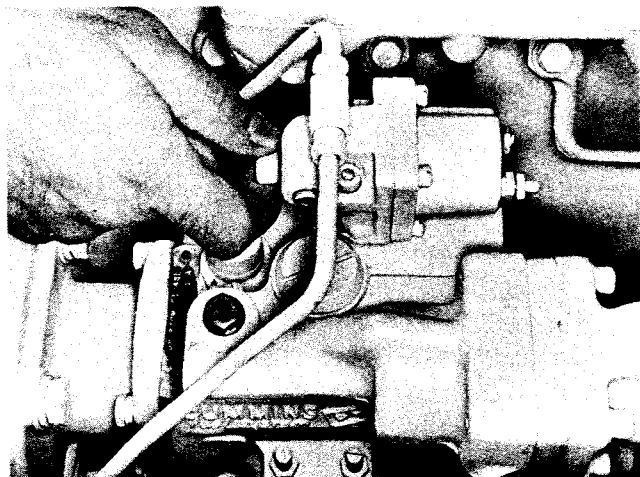

Fig. 1-9, (V21970). Using manual override knob
3. Open manual fuel shut-down valve, if so equipped. Fig. 1-9. Electric shut-down valves operate as switch is turned on. A manual override knob provided on